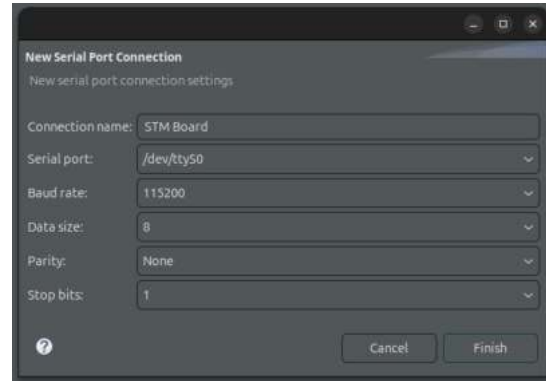

Figure 3: URAT input
- Click on New.. and enter connection name, select the serial port with which board is connected. (Figure 3).